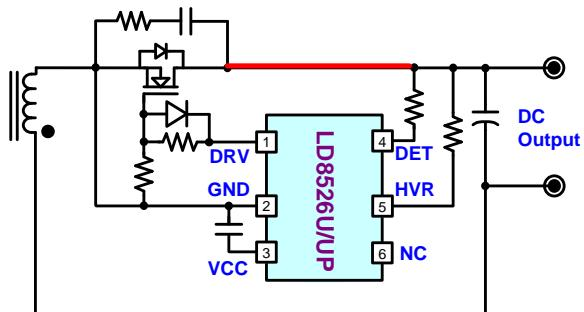

Fig. 19
5. To let MOS be turned OFF in time, keep $5\text{nH}\sim20\text{nH}$ inductance of PCB trace as shown in Fig.19 & Fig. 20 in red lines. The suggested trace configurations are listed below: